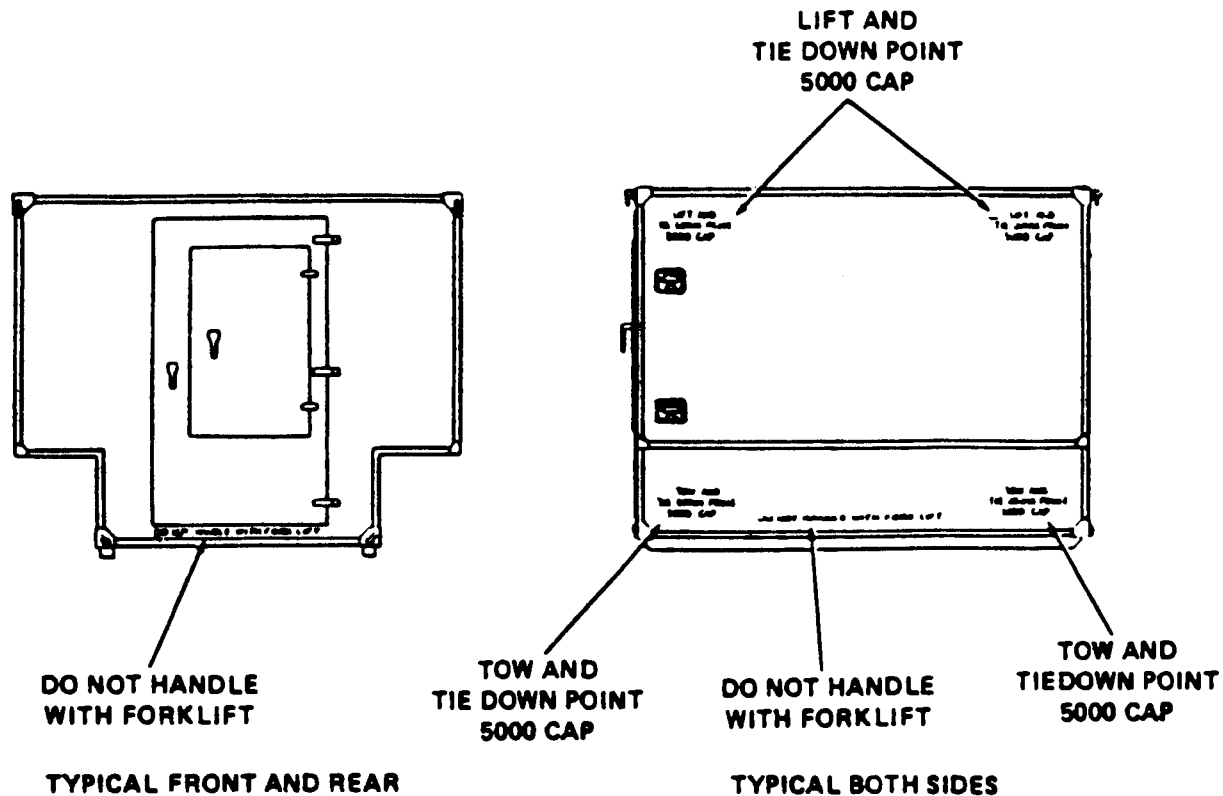

Figure 1-2. Shelter Marking.
**1-11. Shelter Marking.** Shelter markings are shown in Figure 1-2. Lettering is stenciled or silkscreened in accordance with MIL-M-13231 GR II. The color used is black, MIL-C-46168; for camouflage painted shelters, markings shall be Green 383, MIL-C-46168; for black background, and black, MIL-C-46168; for green or brown backgrounds.